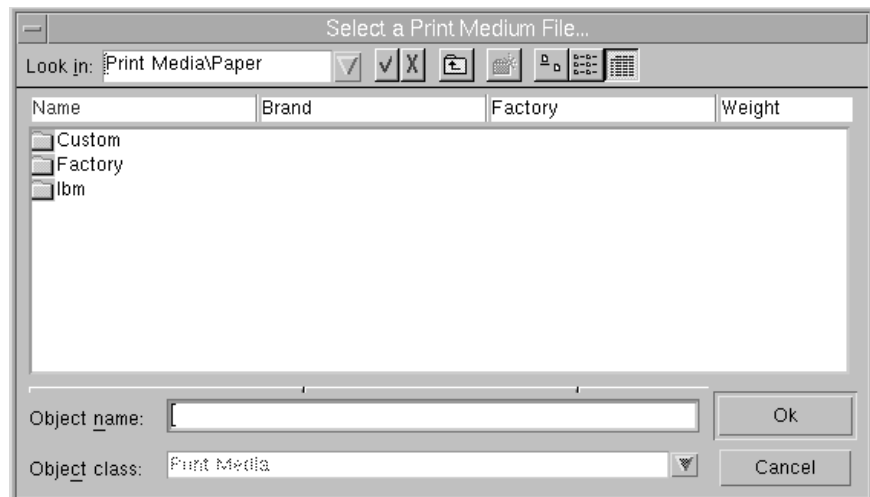

Figure 218. Select a Print Medium File... Window
- 1 After you load the new paper and press the **Do it** pushbutton, the **Select a Print Medium File...** window opens, as shown in Figure 218.